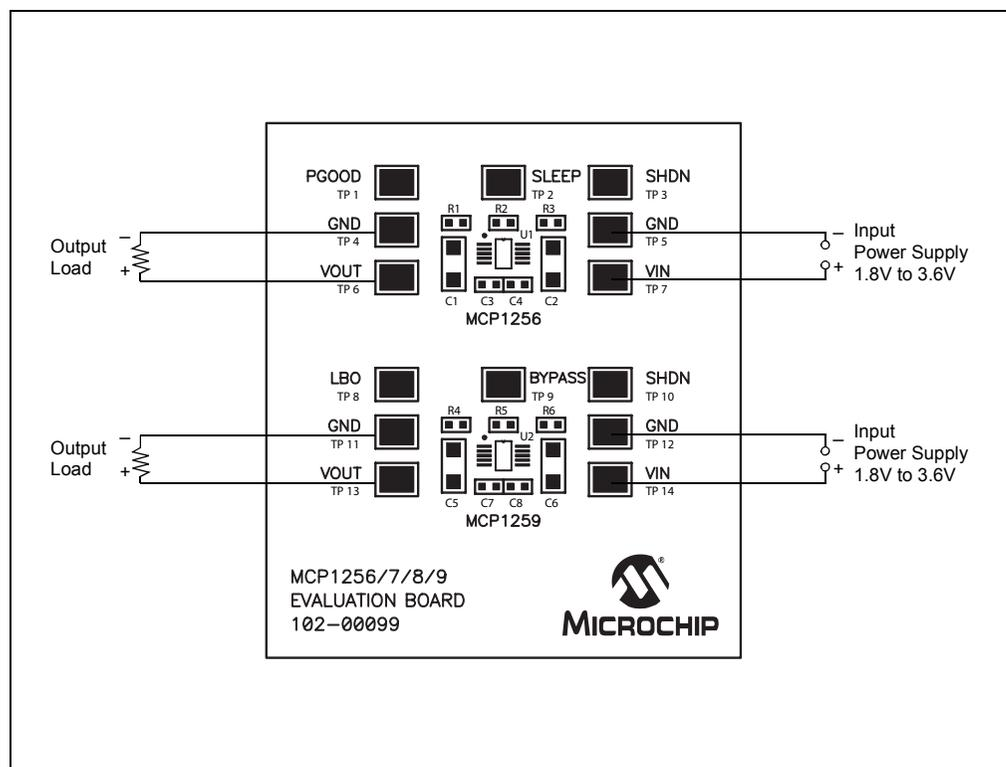

FIGURE 2-1: Setup Configuration Diagram.
2. Connect the positive side of the input source (+) to V_{IN} of the circuit being evaluated. Connect the negative or return side of the input source (-) to GND of the circuit being evaluated. Refer to Figure 2-1.